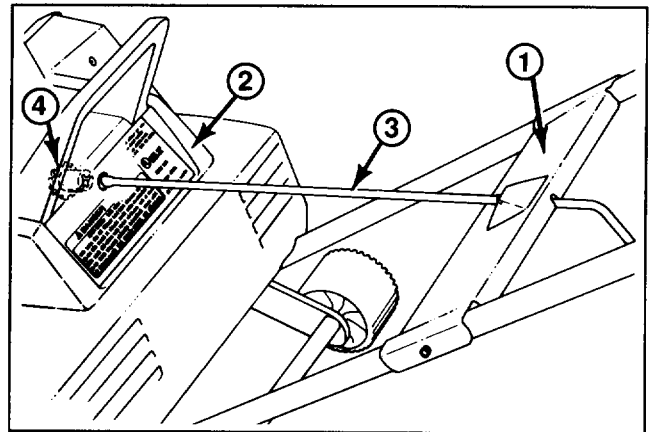

Figure 2
5. Place the mounting plate over the tubing (Fig. 2). Align mounting plate holes with upper and lower tubing holes.
7. Insert end of chute crank through hole in shroud. Turn chute crank rod lightly until flattened end drops into slot in gear. Firmly push chute crank into gear until it snaps into place (Fig. 2 & 3).